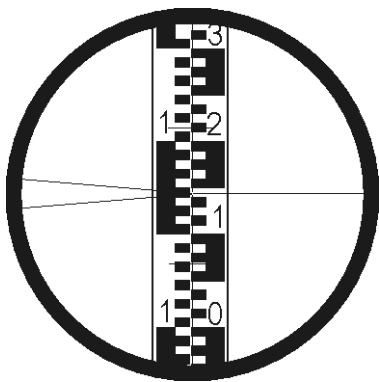

Fig.2
6.2 Distance Measurement from Stadia Readings (fig.2)